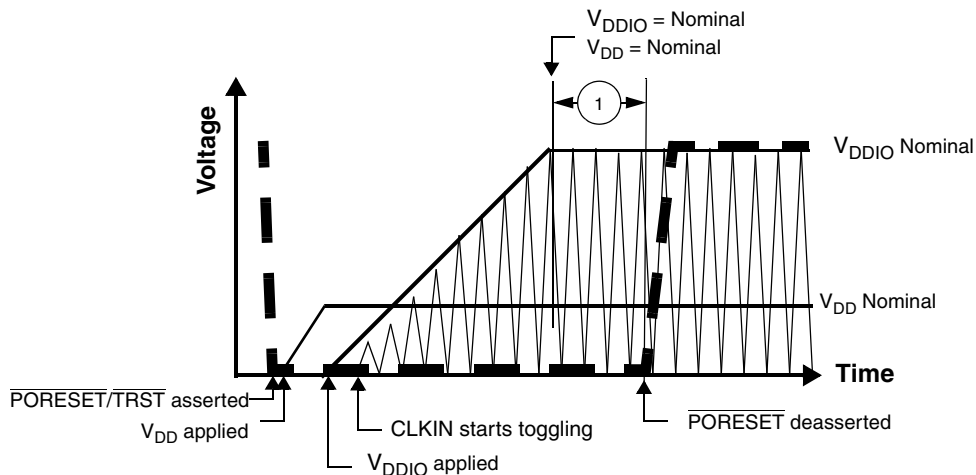

Figure 33. Supply Ramp-Up Sequence with  $V_{\text{DD}}$  Ramping Before  $V_{\text{DDIO}}$  and CLKIN Starting With  $V_{\text{DDIO}}$
- CLKIN should toggle at least 32 cycles before  $\overline{\text{PORESET}}$  deassertion to guarantee correct device operation. The 32 cycles should only be counted from the time after  $V_{\text{DDIO}}$  reaches its nominal value (see timing 1 in Figure 33).
Figure 33 shows a sequence in which  $V_{\text{DDIO}}$  ramps-up after  $V_{\text{DD}}$  and CLKIN begins to toggle with the raise of  $V_{\text{DDIO}}$  supply.